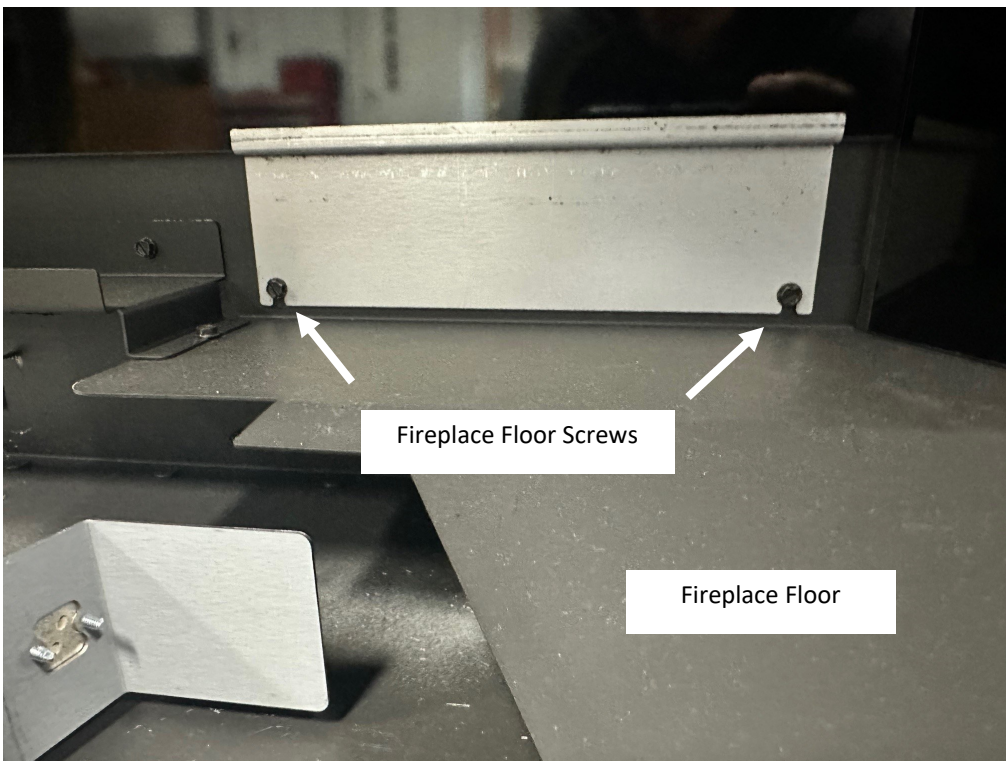

Figure 4 - Rear Glass - Left or Right Support Bracket
4. Install the (3) rear glass support brackets. The (2) larger brackets go on the sides. Loosen the (2) screws that secure the floor of the fireplace on each side and install the two larger rear glass support brackets. See Figure 4. Install the middle rear glass support bracket with (2) provided sheet metal screws. See Figure 5.